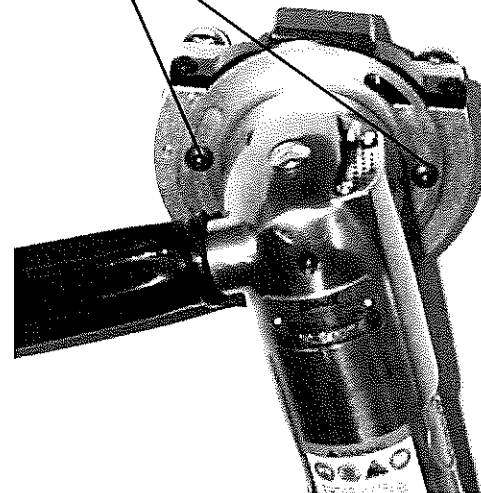

Fig. 2
1. The grinding head can be loosened and rotated 45 degrees in either direction in relationship to the grinding body. To achieve this, loosen the Socket head screws on back of the grinding head (See Fig 2) with the 1/8 allen key provided with the unit. When loose, rotate the grinding head to the position desired and retighten the screws. If more adjustment is needed, remove the guide cover, grinding disk, and support. Remove the 3 screws that hold the rotate plate and rotate to new desired position. (See page 5)